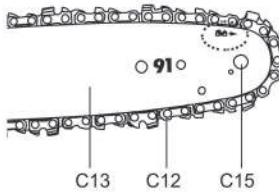

Fig. 11
- 7) The saw chain movement is as indicated by the arrow (Fig. 11). Make sure the saw chain (C12) is properly placed over the sprocket wheel (C15) of the guide bar (C13). (Fig. 11)